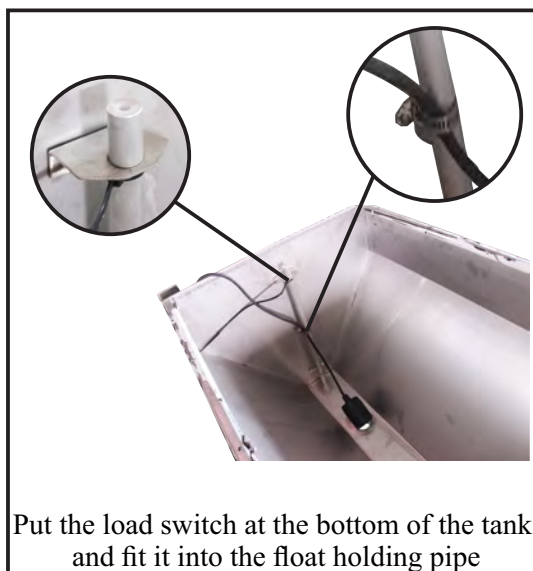

Figure 9
Step 3: Put the float switch into the mud holding tank to touch the bottom, and fit it into the pipe of float (Figure 9).